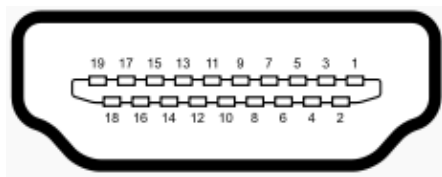

Figure 4-21: HDMI Connector Pinout Locations
- CN Pinouts:** See **Table 4-20** and **Figure 4-21**